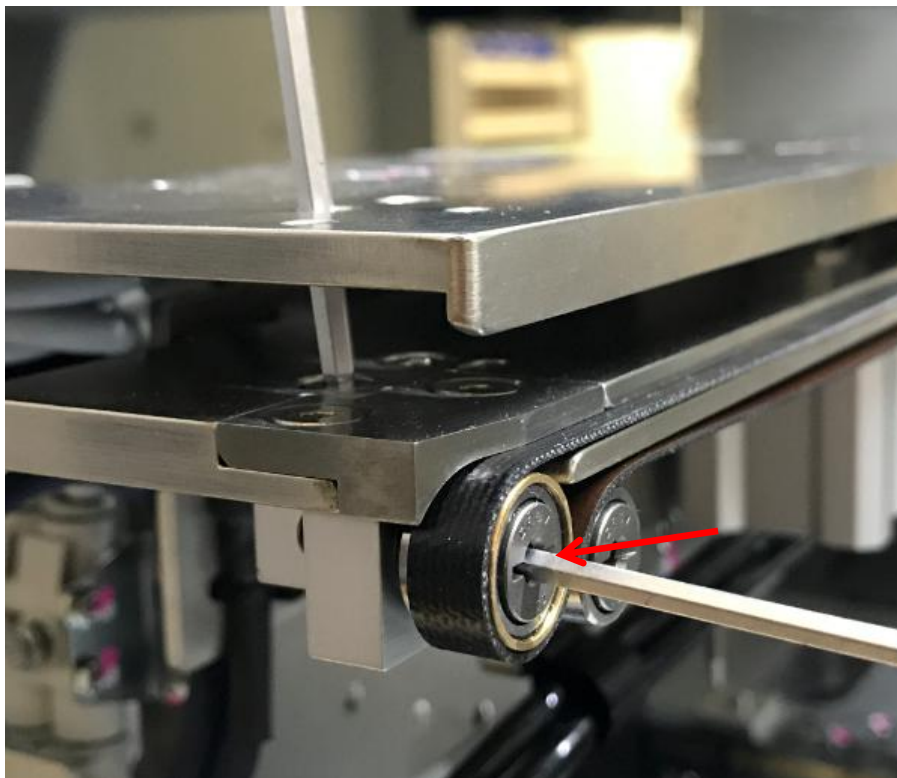

Figure 46 End Pulley Assembly
- f) Insert Allen Key to End Pulley as below Figure 46